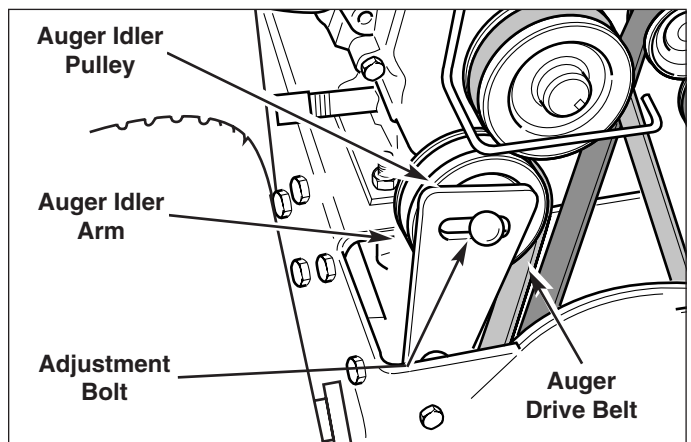

Figure 27. Auger Drive Belt, Guide and Pulley
6. Loosen the adjustment bolt (see Figure 27) and move the auger idler pulley.